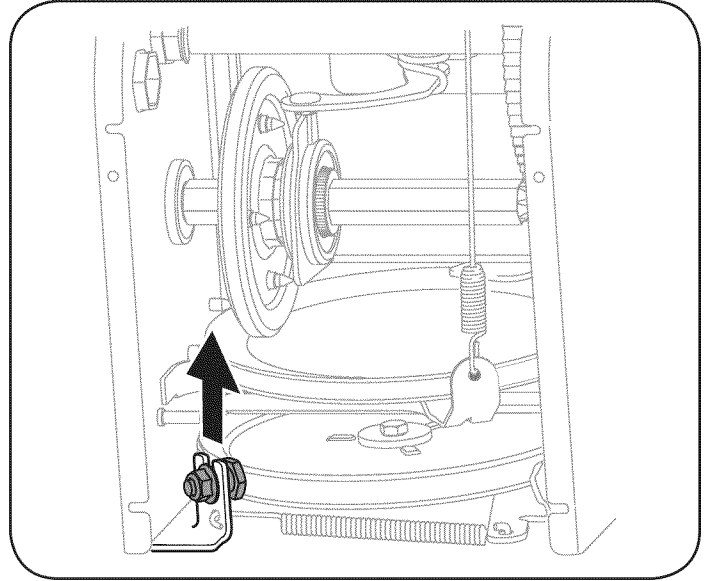

Figure 25
- Loosen and remove the shoulder screw which acts as a belt keeper. Refer to Figure 25.